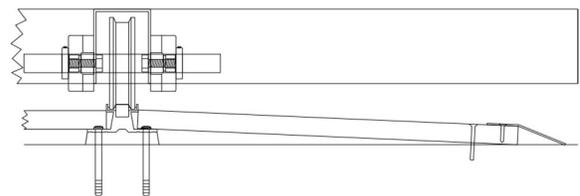

Figure 12: R-CD Combination Deck Ramp
- Installing Ramp:** Ramp is made up of  $\frac{3}{4}$ " tongue and groove OSB in 15" X 48" panels. The ramp rests on the bottom extrusion flange of the first track and is anchored to the concrete through the OSB using #6 X 35 mm Ramp Anchors. A stainless steel toe is attached to the OSB using  $\frac{3}{4}$ " wood screws. (Fig. 12)